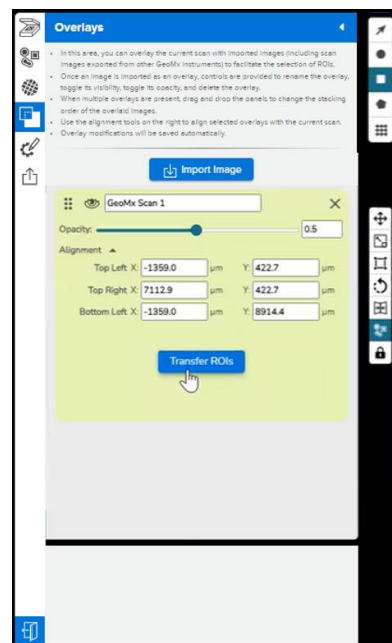

Figure 40: ROI Transfer button
6. Click **Transfer ROIs** (see Figure 40). A confirmation message appears; click Cancel or OK.